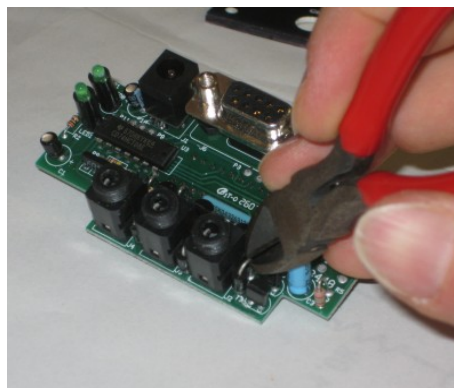

Figure 4: Transient voltage suppression diodes (TVSD)
4. The TVSD at the end of the row can easily be cut in half using a wire cutter (see **figure 4**).